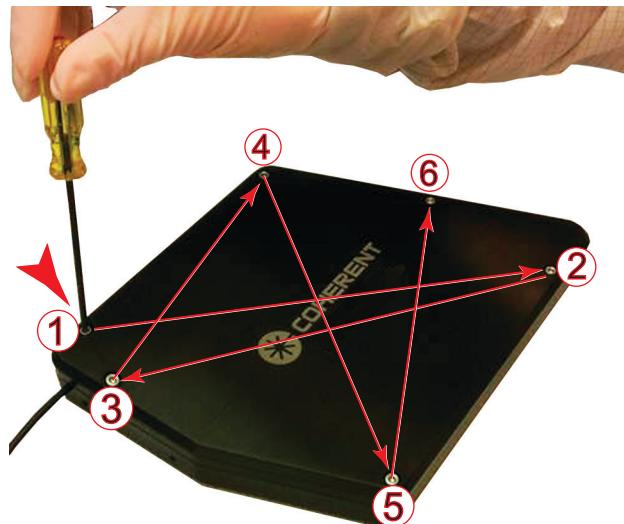

Figure 5-15. Tightening Pattern to Secure Cover
6. Using the 7/64" hex wrench, secure the OBIS Galaxy box cover by firmly tightening the six top cover screws ***in the sequence shown in Figure 5-15.***